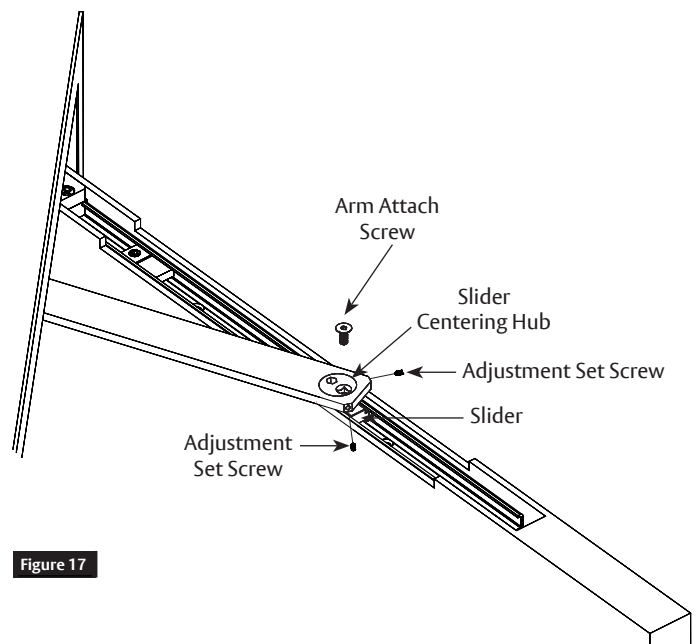

Figure 17
4. Align hub initially as shown and insert two (2) 10-24 x 3/8" adjustment set screws. Turn both set screws just enough to retain slider centering hub. Do not tighten firmly at this time. (Figure 17)